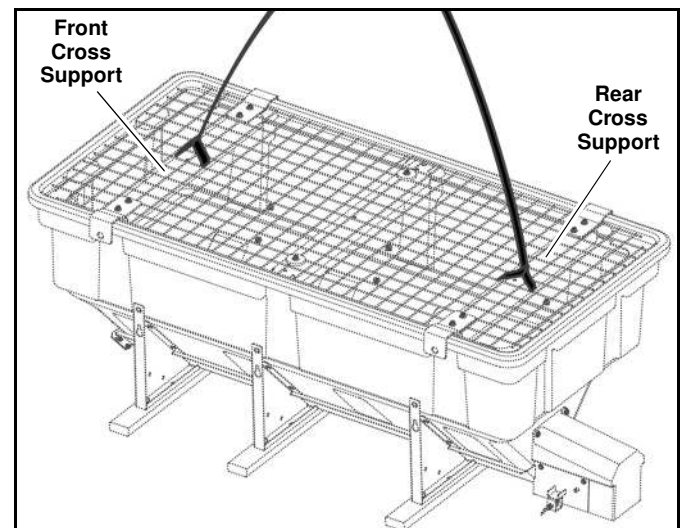

Figure 1-11
1. Attach two lift straps through the top grate to the front and rear spreader cross supports (See Figure 1-11).